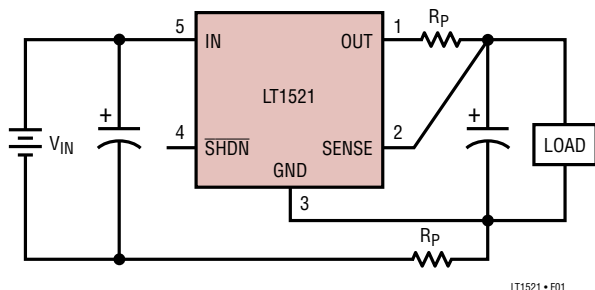

Figure 1. Kelvin Sense Connection
**SENSE (Pin 2):** For fixed voltage versions of the LT1521 (LT1521-3, LT1521-3.3, LT1521-5), the sense pin is the input to the error amplifier. Optimum regulation will be obtained at the point where the sense pin is connected to the output pin of the regulator. In critical applications small voltage drops caused by the resistance ( $R_P$ ) of PC traces between the regulator and the load, which would normally degrade regulation, may be eliminated by connecting the sense pin to the output at the load as shown in Figure 1 (Kelvin Sense Connection). Note that the voltage drop across the external PC traces will add to the dropout voltage of the regulator. The sense pin bias current is 5 $\mu$ A at the nominal regulated output voltage. This pin is internally clamped to  $-0.6V$  (one  $V_{BE}$ ).